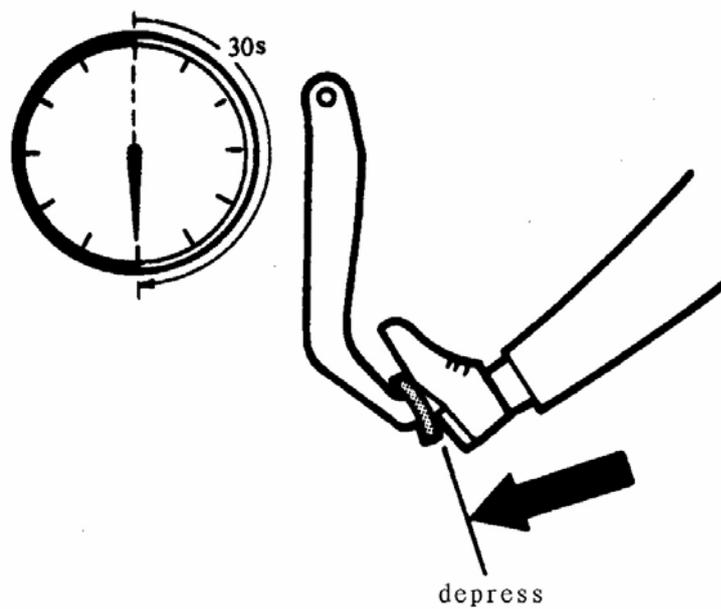

FIG.16-82
- (1) With the engine running, depress brake pedal. Then stop engine while holding brake pedal depressed.
- (2) Hold brake depressed for 30s. If pedal height does not change, condition is good. But isn't if pedal rises. (FIG.16-82)